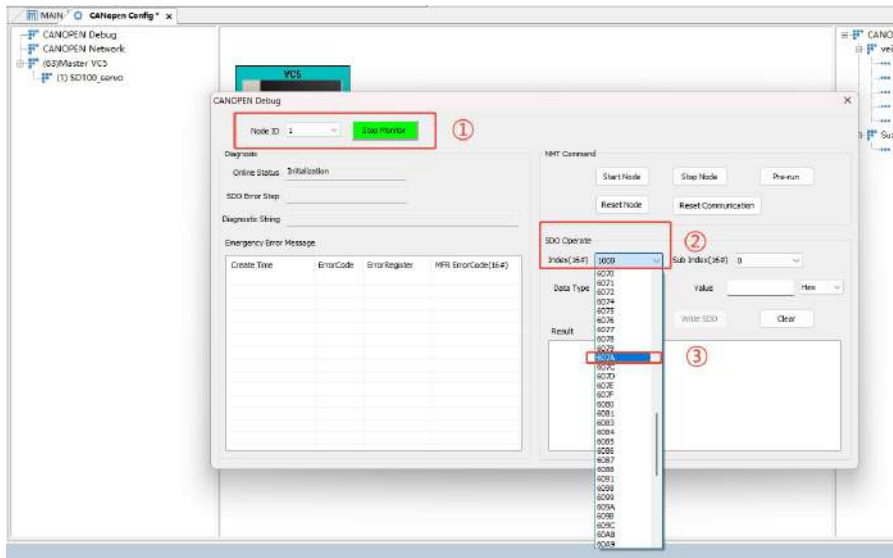

Figure 3-21 SDO Read/Write Object Dictionary
Step 2: In the SDO Read/Write section, locate indexes 607A, 6081, 6060, and 6040. In the Data Value field, enter the values listed in Figure 3-21. (Note: Select the appropriate data type from the dropdown based on the value entered.)